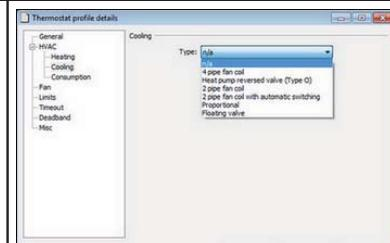

Figure 45
- At **Cooling**, make the applicable choice in the drop-down-menu; the available alternatives are shown in Figure 45. For the below alternatives, further settings can be made; click the links for details.